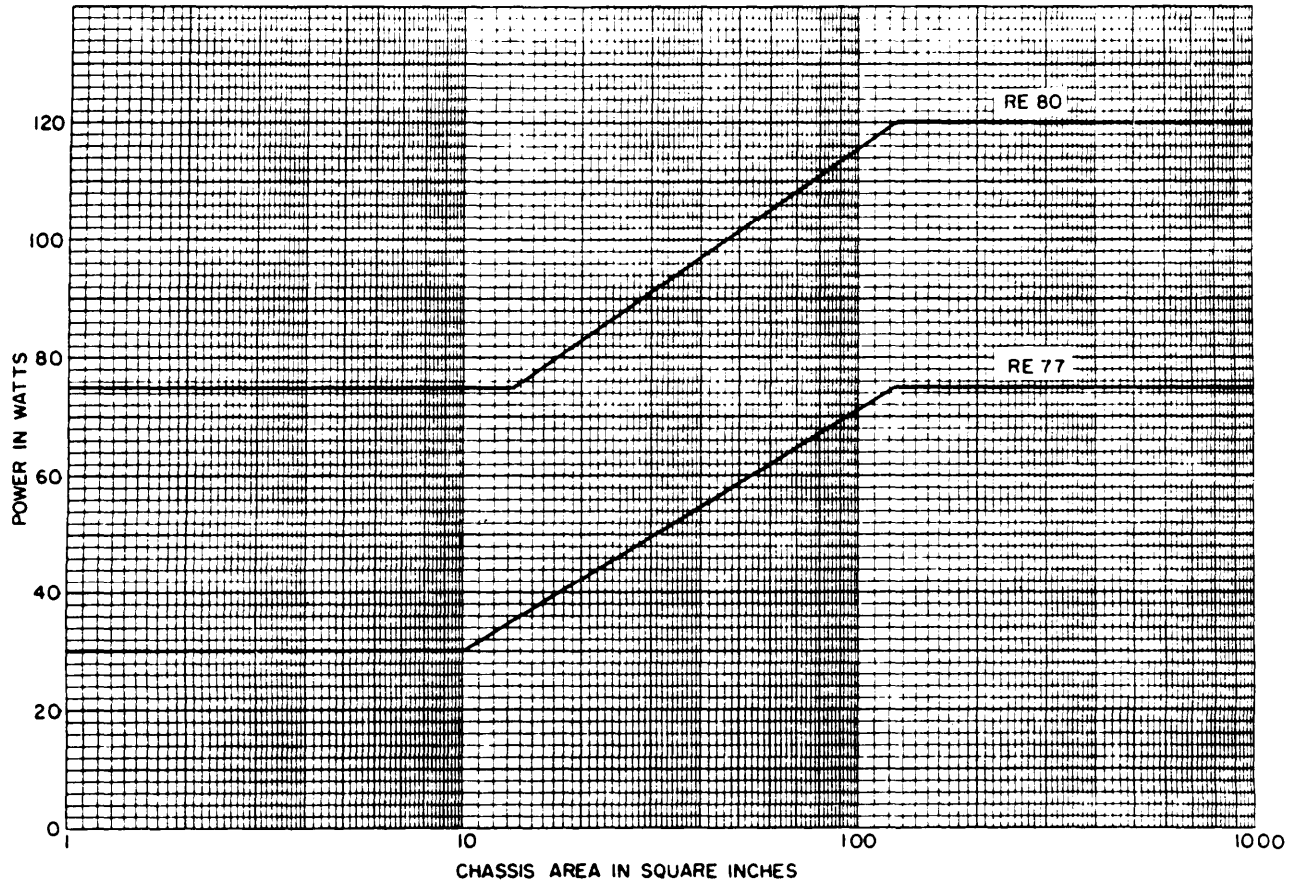

FIGURE 103-2. Chassis area derating curves.
2.1.3 Chassis derating. These resistors, as noted in 2.1.2, are assigned power ratings when mounted on test chassis areas at +25°C. Figure 103-2 provides the chassis area derating curves for these resistors.